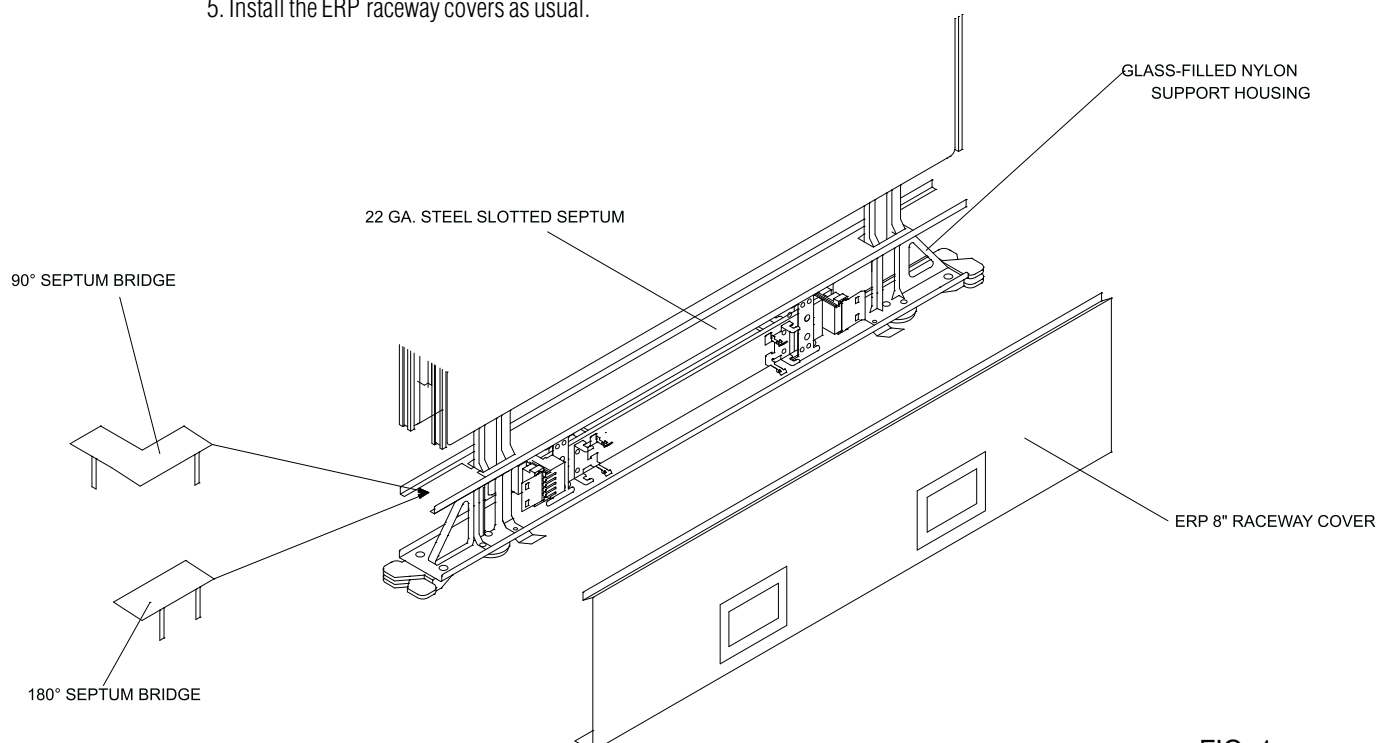

FIG. 1
**Note: Each ERP 90° trim includes (1) 90° steel septum bridge. Each ERP T-post trim includes (2) 90° steel septum bridges.**
2. Bend the 4 tabs down 90° on each end of the steel 90° steel septum bridges (Figure 1).